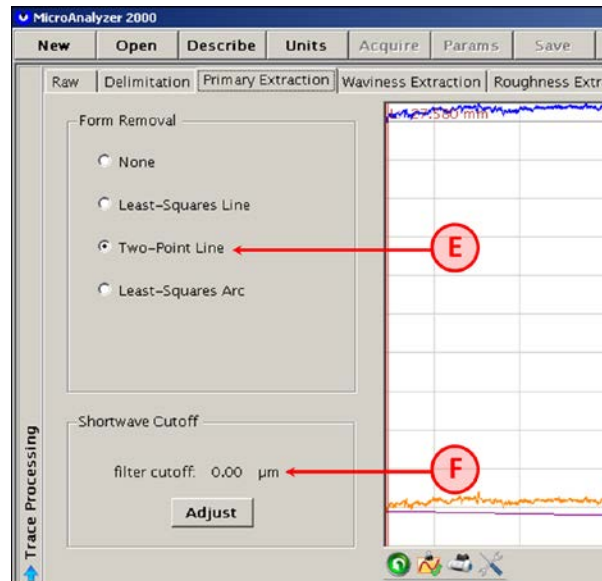

Figure 3 - Primary Extraction Tab Settings
- 4.4. Confirm the following settings on the *Primary Extraction* tab (Figure 3):
- 7.3. Confirm the following settings on the *Primary Extraction* tab (Figure 3):